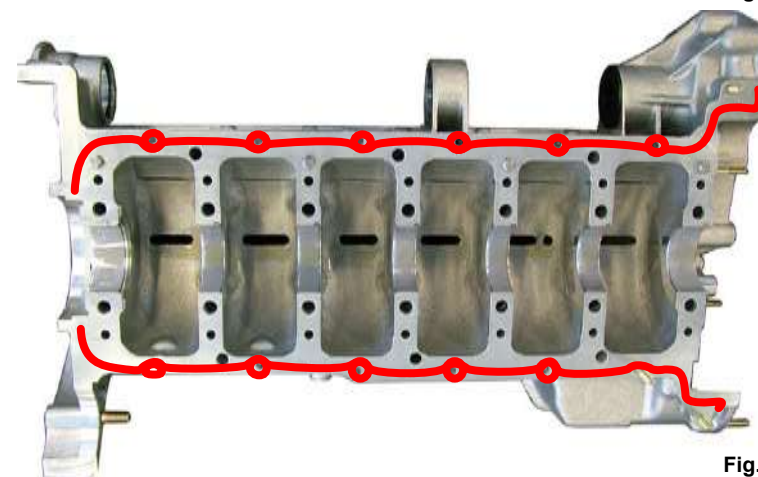

Fig.4
11. Degrease the contact areas and apply Three bond 1207B on the areas shown in the figure (**Fig.4**).
14. Tighten the 12 mm and 8 mm stud bolt nuts to the prescribed tightening torques following the sequence shown in the figure (Fig.4).